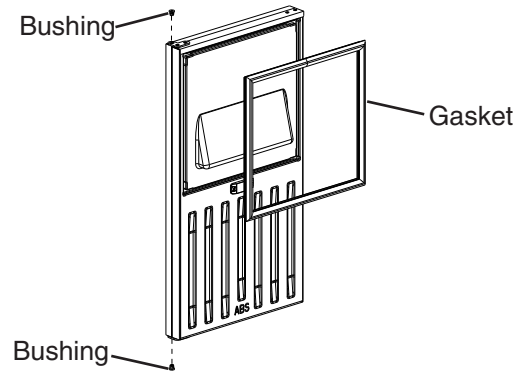

Fig. 20
8) Replace the door gasket in its proper orientation. Reinsert the bushings into hinge (C1) and hinge (C2) (the hinges attached to the door). See Fig. 20.